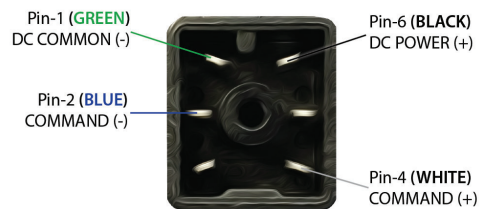

Figure 2
3. Figure 1 shows the location of the ISQBX electrical connector and Figure 2 shows the connector.